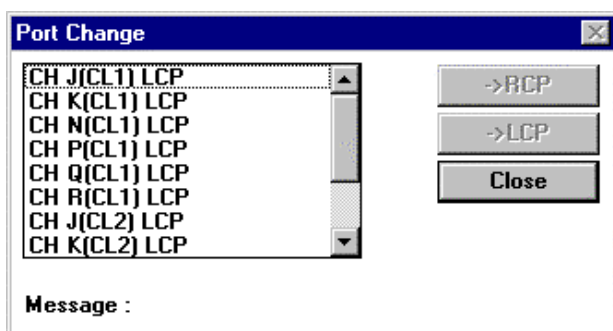

Figure 3.10 Configuring the RCPs
2. If Hitachi GRAPH-Track™ (GT) is connected to the subsystem to be configured as a HORC MCU, you may want to disconnect GT to avoid contention on the internal 9900 LAN (see section 3.6.2 for further information).
6. Configure the serial interface ports which are connected to the RCUs as RCPs using the Port Change panel (see Figure 3.10) (see section 4.2.3 for instructions).